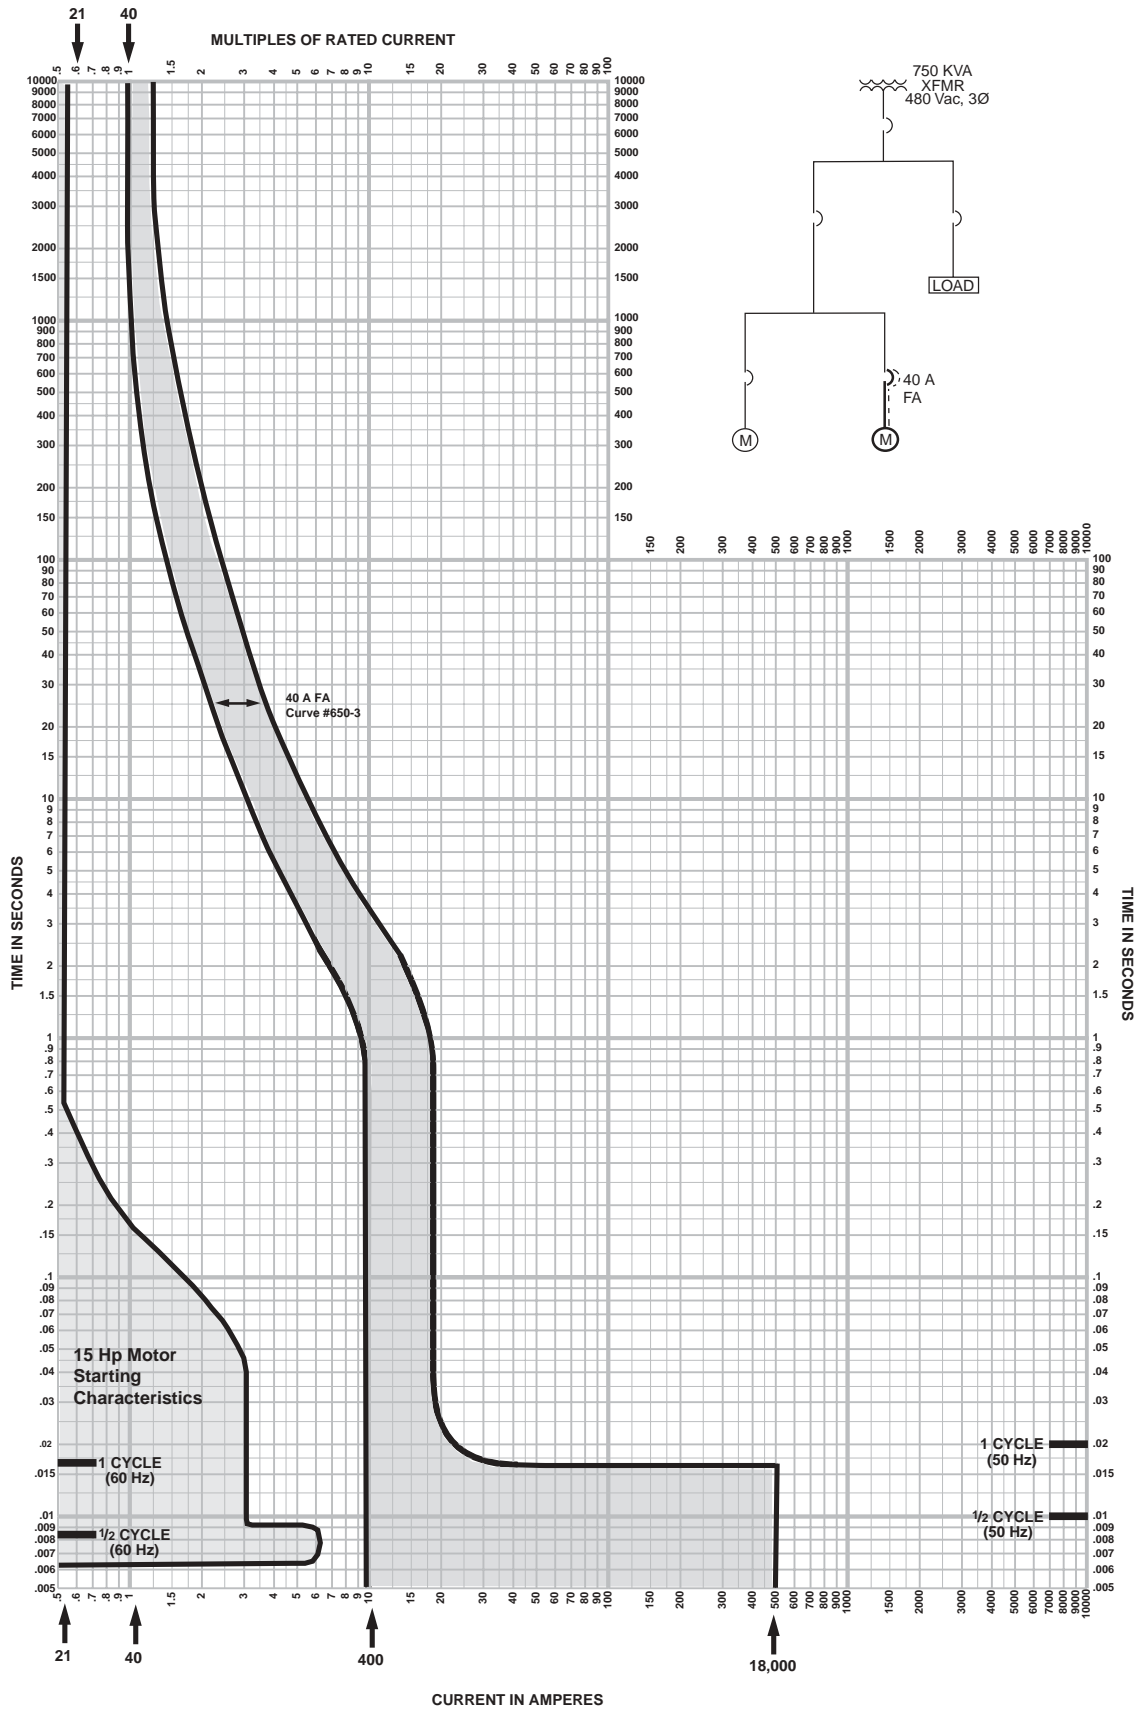

Figure 7: FA 35–50 A Circuit Breaker and Motor Coordination
- Using the motor selection table on page 6-28 of the 172 Square D Digest, a 40 A FA circuit breaker was chosen to protect a 15 horsepower motor at 460 volts ac (motors are sized @ 460 Vac to compensate for voltage drop from the transformer). Trip curve number 650-3 is shown (see Figure 7) with the motor's time/current characteristics plotted. Since the curves do not intersect each other, the circuit breaker should not trip at any time during start-up or normal full load operation of the motor. Should a locked rotor condition occur, the motor will continuously draw a current of 126 A. The circuit breaker trip curve shows the 40 A FA breaker will trip within the range of 9–40 seconds, thus protecting the conductors from damage.